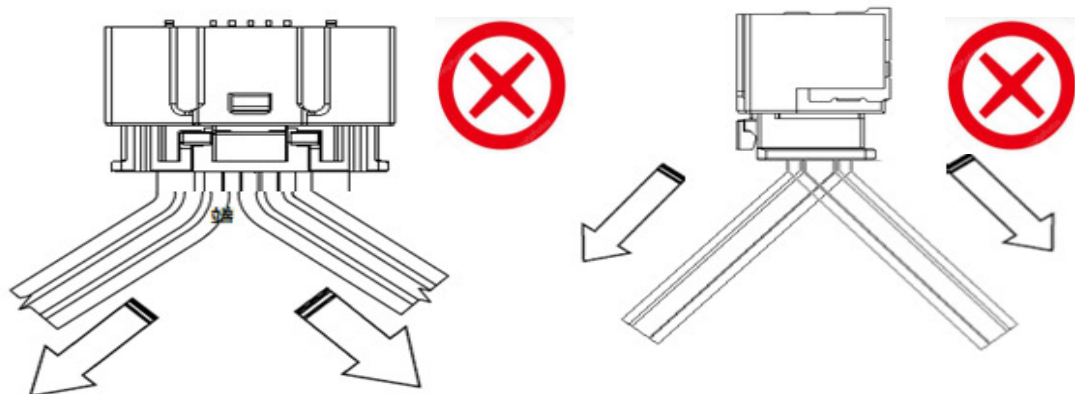

Fig 9.3.3 Wiring toward more than 2 directions
- Wire routing inside customer's device needs to avoid excessive stress. Please avoid pulling them toward more than two directions.(Fig 9.3.3)